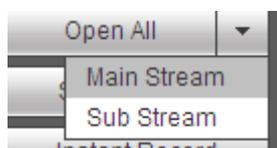

Figure 3-9
- Section 3: Open all. Open all button is to enable/disable all-channel real-time monitor. Here you can select main stream/sub stream too. See Figure 3-9.